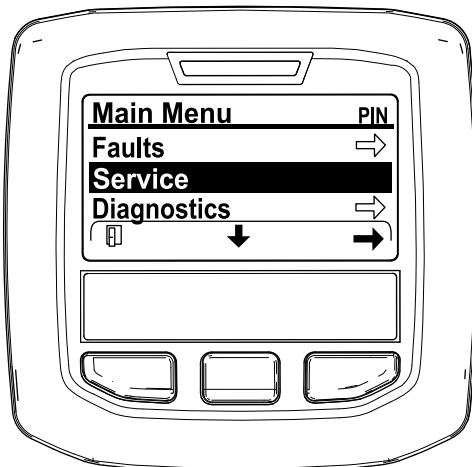

Figure 26
2. Navigate to the MAIN MENU, press the center button to scroll down to the SERVICE MENU, and press the right button to select the SERVICE option (Figure 26).